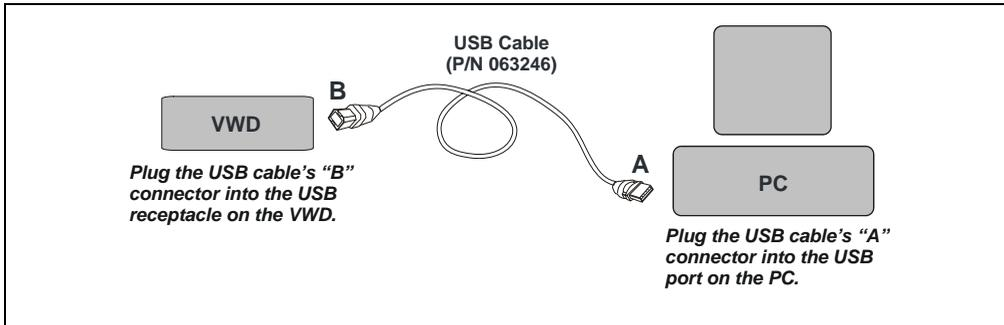

Figure B-11. Dionex VWD Connected Directly to the Chromeleon PC
1. Plug the “A” connector of the USB cable (P/N 063246) into the USB port on the PC (see Figure B-11).